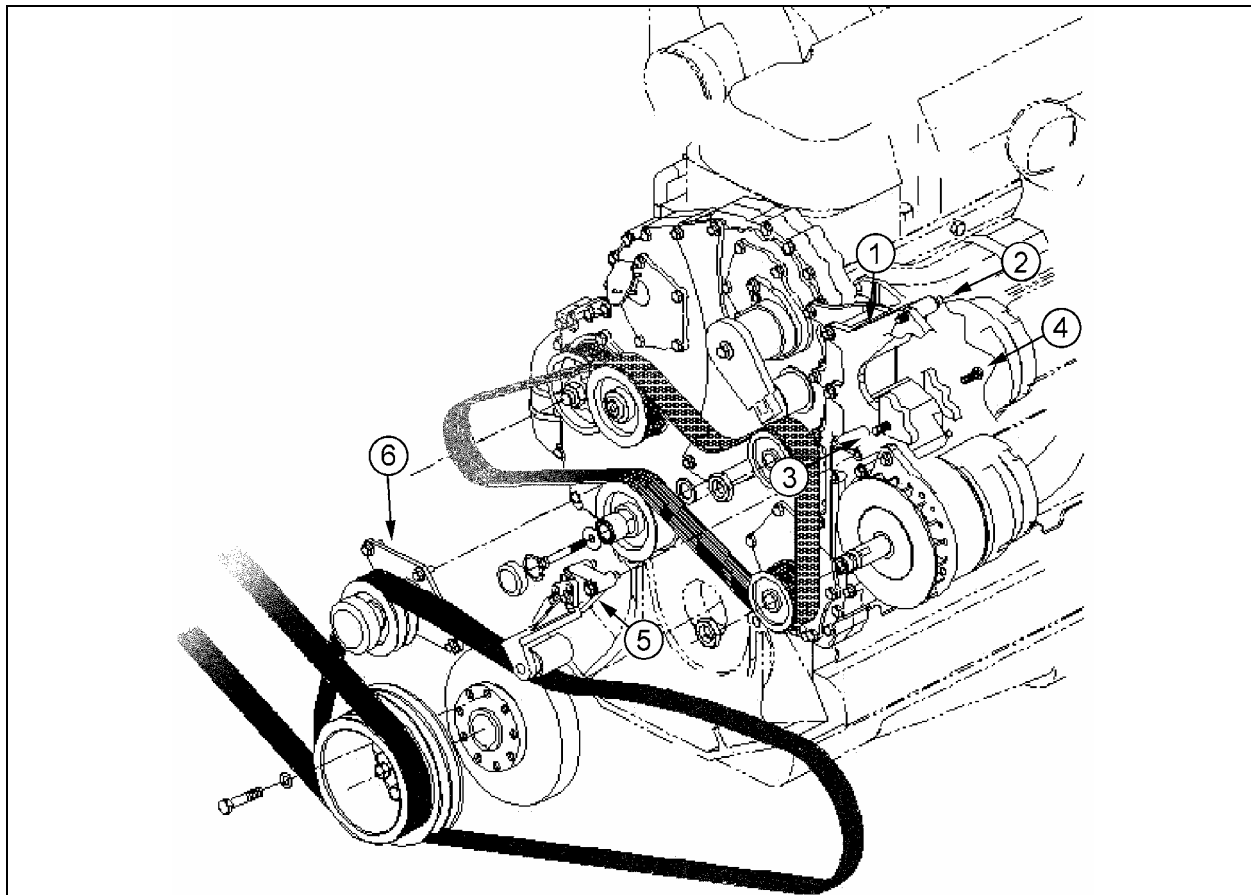
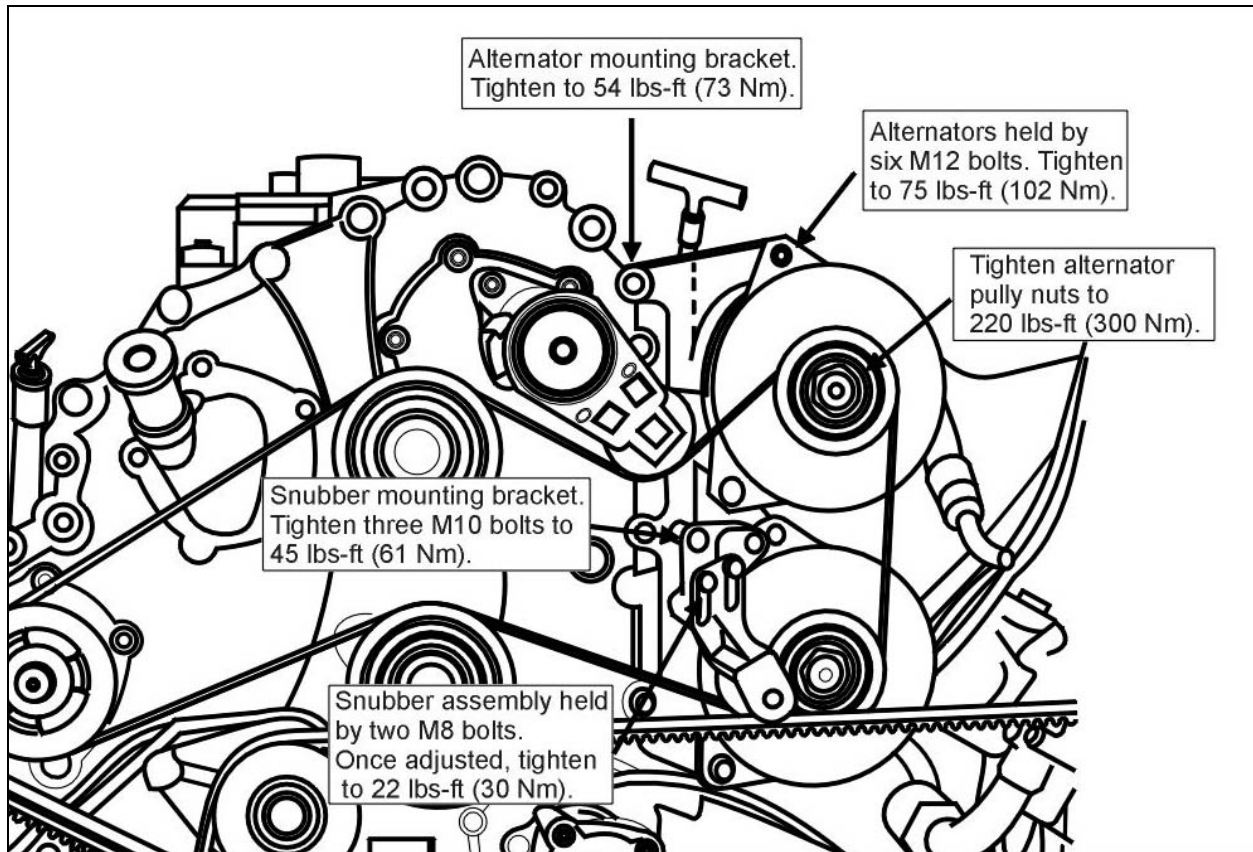

FIGURE 6: TWIN BOSCH ALTERNATORS INSTALLATION, EXPLODED VIEW
FIGURE 7: ALTERNATORS AND ACCESSORIES TIGHTENING TORQUES
Install alternators as follows. Refer to figure 6 for installation and to figure 7 for tightening specifications:
2. Bolt the alternators to the bracket using the three inch bolt at the top of the upper alternator (2, fig 6) and flanged bolts at the other mounting bosses (3 and 4, figure 6). Tighten the bolts in the sliding sleeves (4, figure 6) last as they will adjust to prevent breaking the alternator mounting bosses upon final tightening. Repeat for the second alternator;
5. Install the snubber bracket (5, figure 6) using three flanged bolts. Do not tighten the adjustment bolts on the snubber until after installing kit #065244 (for XL coaches), or kit #065245 (for H3-41 and H3-45 coaches);
6. Install the compressor belt idler pulley 012058 ( 6, figure 6) as shown. A stud inserts into one of the mounting holes of the pulley assembly. Fasten this one using a nut and bolts for the other two.